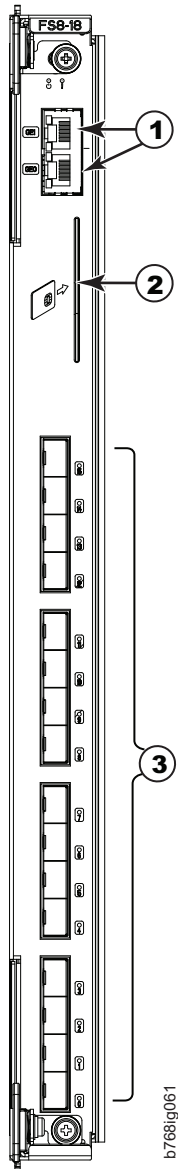

Figure 60. FS8-18 encryption blade
- Figure 60 on page 172 show an FS8-18 encryption blade